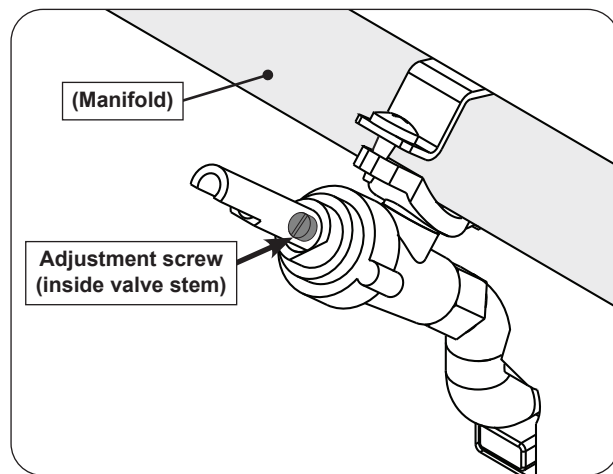

Fig. 47-1 Valve adjustment screw location
4. Locate the FLATHEAD adjustment screw found inside the valve stem (see Fig. 47-1).